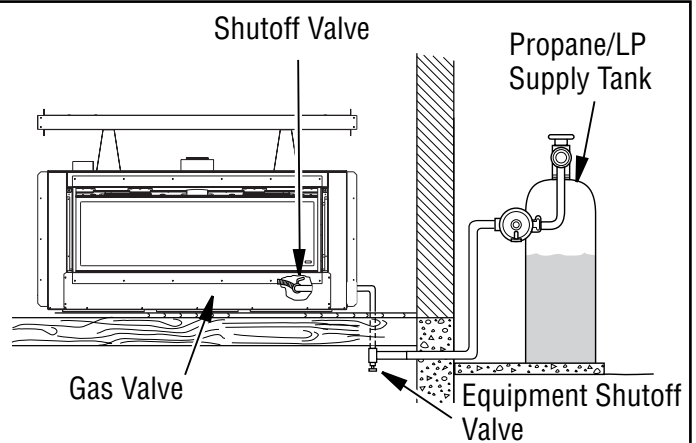

Figure 30 - Checking Gas Joints for Propane/LP Gas Fireplace
3. Check all joints from propane/LP supply tank or gas meter to equipment shutoff valve (see **Figure 30 or 31**). Apply noncorrosive leak detection fluid to all joints. Bubbles forming show a leak.
5. Check all joints from equipment shutoff valve to gas valve (see **Figure 30 or 31**). Apply noncorrosive leak detection fluid to all joints. Bubbles forming show a leak. Correct all leaks at once.